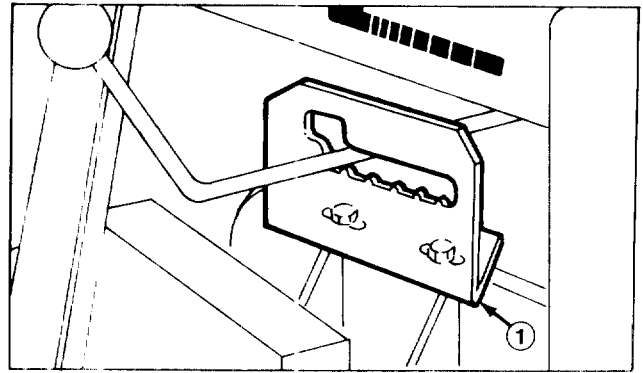

Figure 30
1. Loosen (2) capscrews mounting gear shift guide to transmission (Fig. 30).